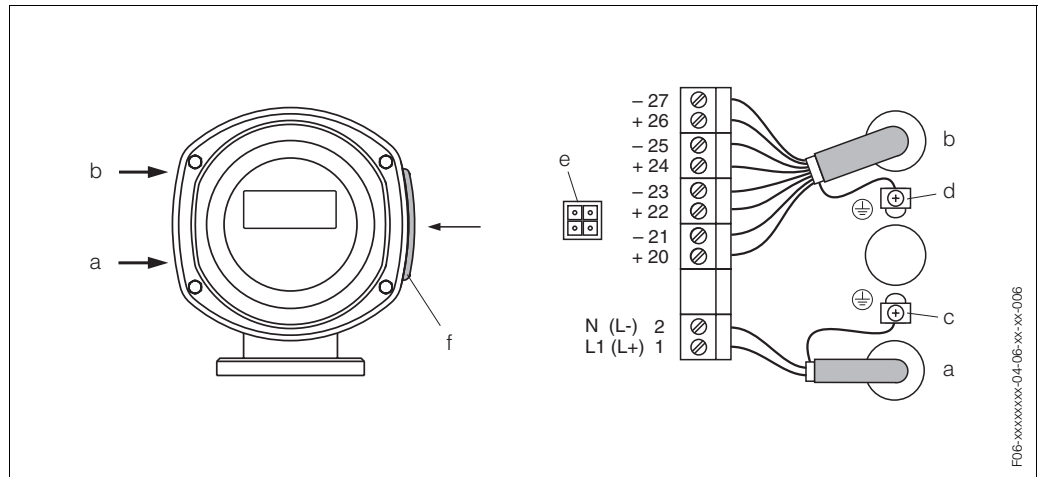

Fig. 33: Connecting the transmitter (stainless-steel field housing). Cable cross-section: max. 2.5 mm²
- Wiring diagram (stainless steel housing) → Fig. 33